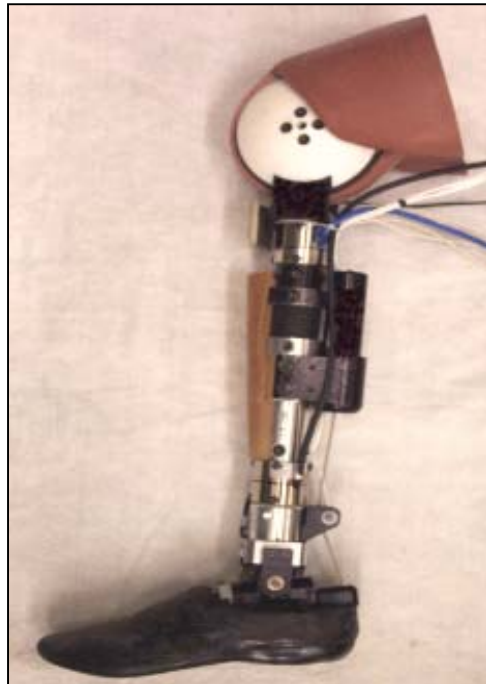
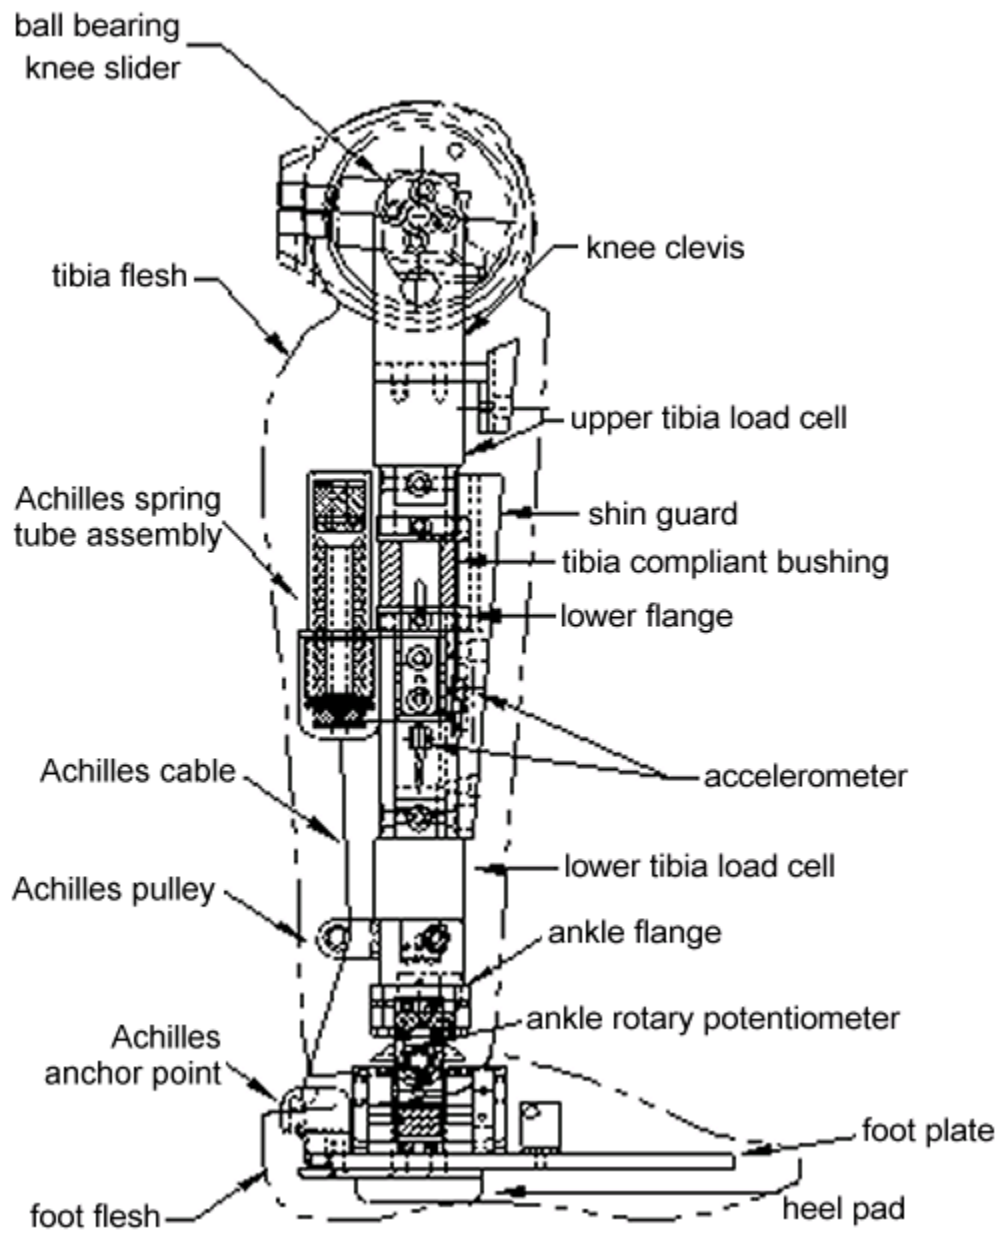
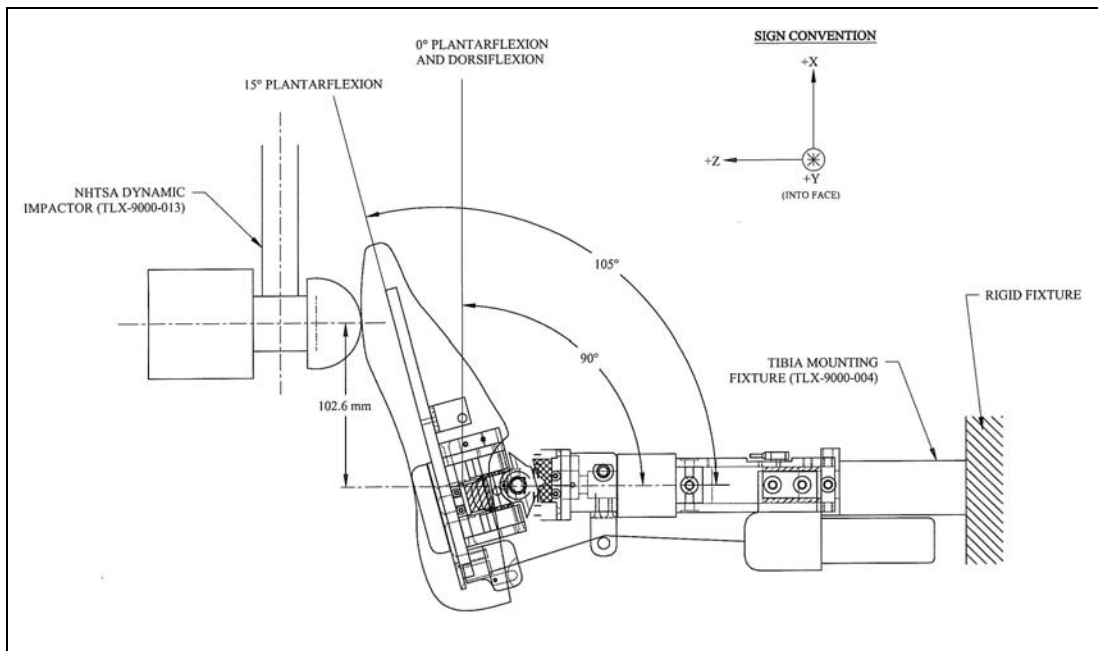
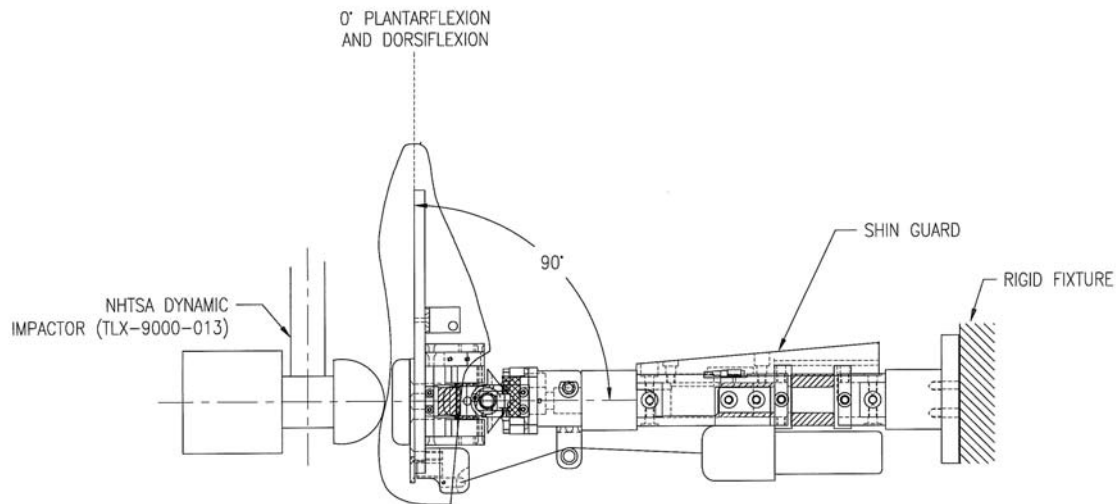

Figure 1. Thor-Lx/HIIIr (tibia flesh removed)
Figure 2. Thor-Lx/HIIIr Schematic
Figure 8. Ball of Foot Impact Test Setup
Figure 9. Heel Impact Test Setup
Thor-Lx/HIIIr is shown in Figure 1. The appropriate flesh elements for the tibia have been removed. Figure 2 is a schematic of the leg defining the key elements of the design. Detailed drawings of the individual components and assemblies can be found in the Thor-Lx/HIIIr drawing package, available at the NHTSA website. In addition, thorough instructions of the product assembly and disassembly are located in the Thor-Lx/HIIIr User's Manual, also available on the NHTSA website ([http://www-nrd.nhtsa.dot.gov/departments/nrd-51/thor\\_LX/Thorlxweb.html](http://www-nrd.nhtsa.dot.gov/departments/nrd-51/thor_LX/Thorlxweb.html)).
This test consists of a dynamic impact to the ball of the foot. The leg is held rigidly with the tibia horizontal as shown in Figure 8, without the presence of the tibia compliant element.
3. Remove the tibia flesh from the leg. Remove the tibia compliant bushing assembly at the lower flange joint (Figure 2) and mount the leg to the tibia mounting fixture, with the toe pointing upward, as shown in Figure 8. The certification corridors were designed with the tibia compliant bushing assembly removed, and testing with this assembly attached to the leg may alter performance. The test fixture must be rigidly secured so that it does not move or vibrate excessively during impact.
6. Allow the foot to rest in the neutral position (Figure 8). Verify with the Y-axis potentiometer that the foot is at  $15 \pm 0.5^\circ$  plantarflexion. Leave the foot in the neutral position for impact. Readjust the foot to this position between impacts.
7. Adjust the fixture so that the longitudinal centerline of the pendulum arm is vertical at impact, within  $\pm 0.5^\circ$ , and the point of impact is  $102.6 \pm 2.5$  mm ( $4.04 \pm 0.1$  in) above the ankle Y-axis pivot point (reference Figure 8).
This test consists of a pendulum impact to the heel of the foot. The leg is held rigidly with the tibia horizontal (Figure 9).
3. Remove the tibia flesh. Remove the knee clevis and mount the tibia to the test fixture at the proximal end of the upper tibia load cell or load cell simulator (Figure 2) with the toe pointing upward, as shown in Figure 9. The test fixture must be rigidly secured so that it does not move or vibrate excessively during impact.
5. Orient the foot at 0o +/- 0.5o plantarflexion (Figure 9). Use an external positioning bracket to hold the ankle in this orientation (reference Figures 7a and 7b).
7. Adjust the fixture so that the longitudinal centerline of the pendulum arm is vertical at impact, within  $\pm 0.5^\circ$ , and the impact point is aligned with the longitudinal axis of the tibia, within  $\pm 2.5$  mm ( $\pm 0.1$  in) (Figure 9).